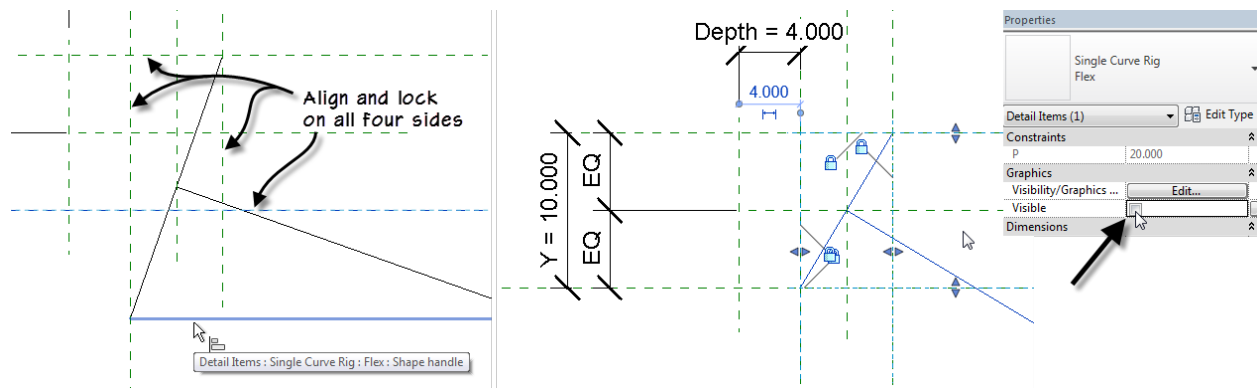

Figure 38—Nest in the rig, align and lock it on all four sides
For each alignment, first click one of the reference planes in the host family, and then click the nested shape handle edge in the detail item family. Use TAB if necessary to get shape handle each time (see left and middle of Figure 38).
13. Select detail item and on the Properties palette, uncheck the Visible checkbox (see the right side of Figure 38).